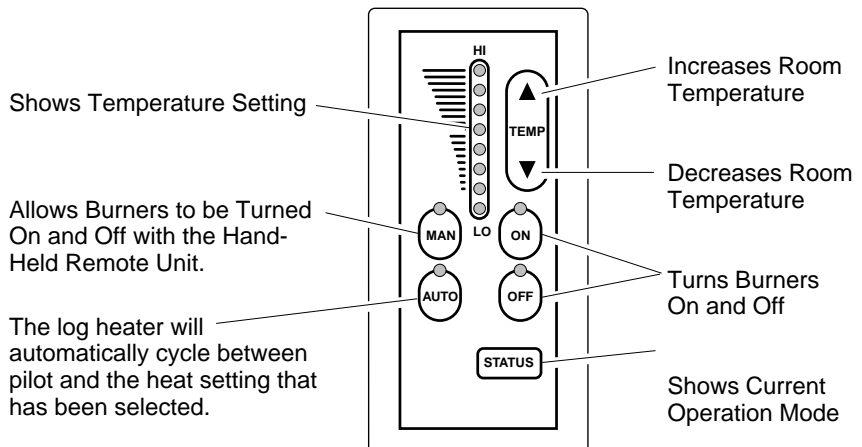

Figure 24 - Thermostat Hand-Held Remote Control Unit Selections (GHRCT Only)
- 2b. Select the MAN (manual) or AUTO button on the hand-held remote control unit (see Figure 24).